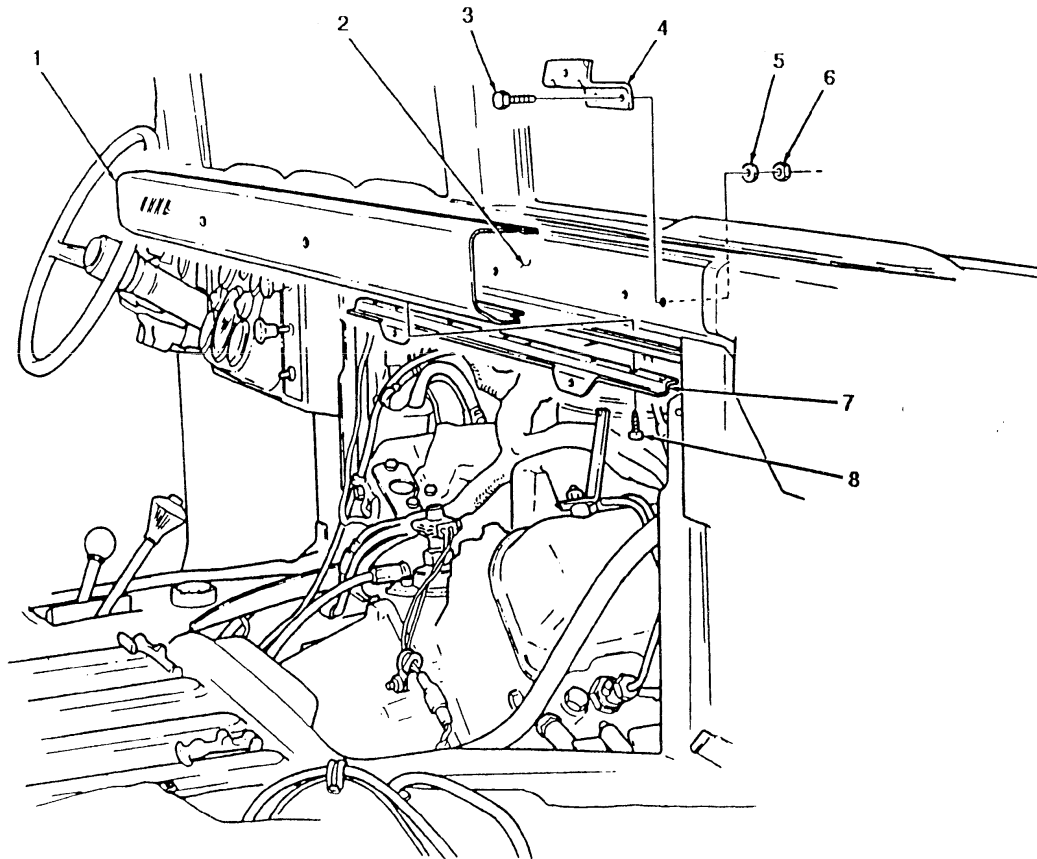
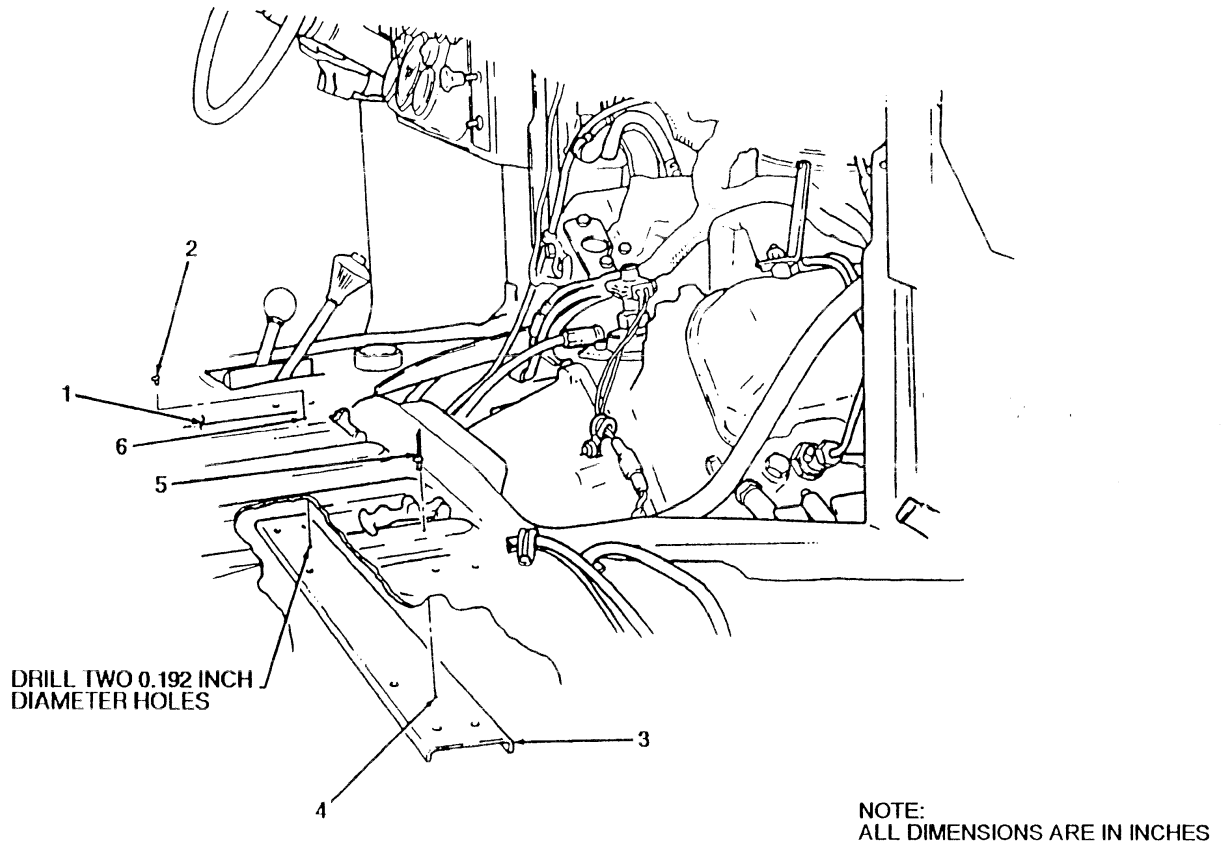
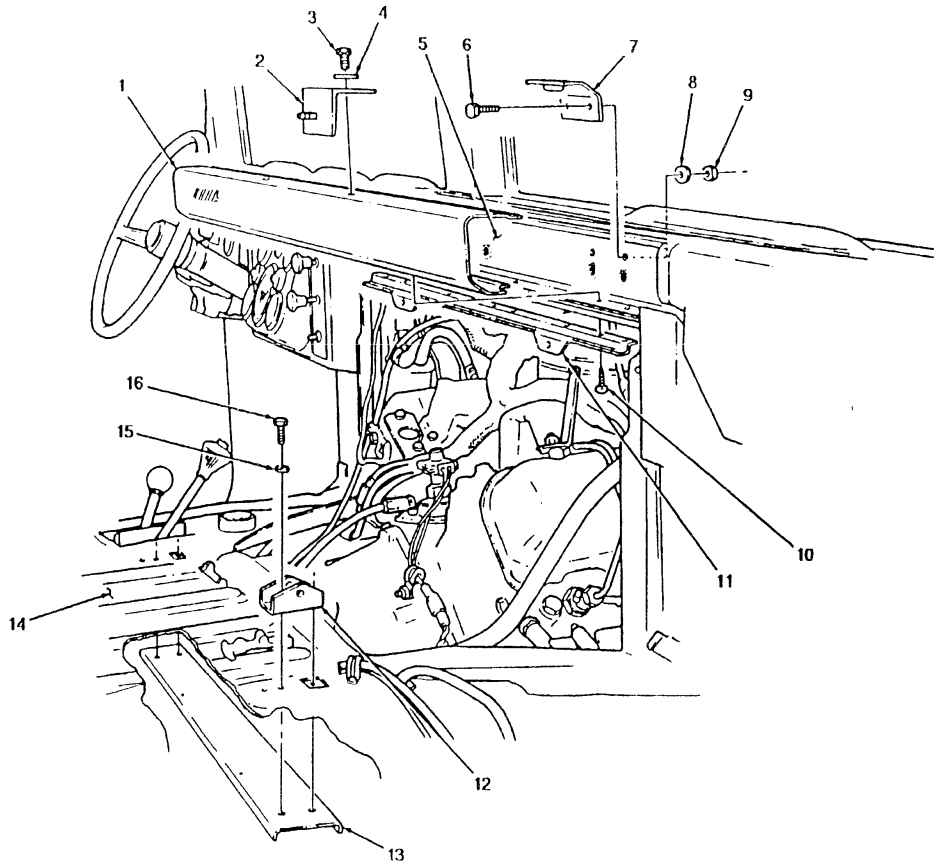

FIGURE 3-63
FIGURE 3-64
FIGURE 3-67
5. Remove nine screws (8) and plenum panel (1) from "A" beam (2) and engine shroud mount (7). (see figure 3-63)
6. Remove four- nuts (6), washers (5), screws (3), and two mounting brackets (4) from "A" beam (2).
7. Remove two rivets (2) from tunnel floor (1) and remove radio rack brace (3). (see figure 3-64)
7. Position P/N 12446764 radio rack brace (13) and two radio rack Mounting brackets (12) to tunnel floor (14) and secure with four existing washers (15) and screws (16). (see figure 3-67)
8. Position two P/N 12446765 radio mounting bracket assemblies (7) to "A" beam (5) and secure with four existing screws (6), washers (8), and NSN 5310-00-013-1245 nuts (9).
9. Position plenum panel (1) oil "A" beam (5) and engine shroud mount (1) and secure with nine existing screws (10).
10. Position two P/N 12446763 upper radio rack brackets (2) on plenum panel (1) and secure with two NSN 5305-00-543-4372 screws (3) and NSN 5310-00-044-6212 washers (4).
11. Locate two holes (6) in tunnel floor (1) left by rivets (2) removed in para. A, step 7, and drill two 0.192-inch diameter holes (4) in radio rack brace (3). (see figure 3-64)
12. Install two NSN 5320-01-143-5075 rivets (5) in tunnel floor (1) and radio rack brace (3). (see figure 3-64)